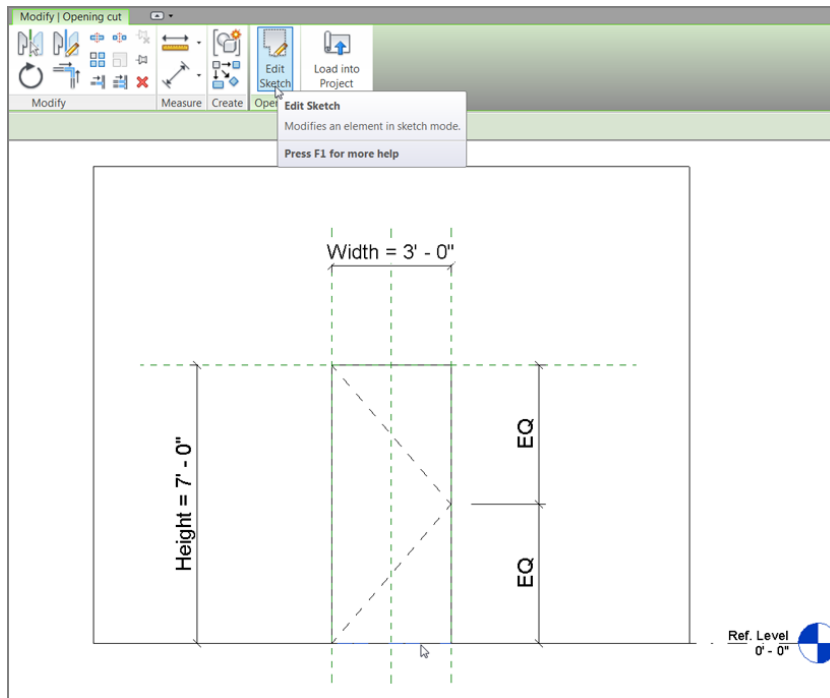

FIGURE 17.14: Editing the door opening
5. In this view, you see a wall and an opening. Select the bottom of the opening, as shown in Figure 17.14.
7. Click the Edit Sketch button on the Opening panel (see Figure 17.14).